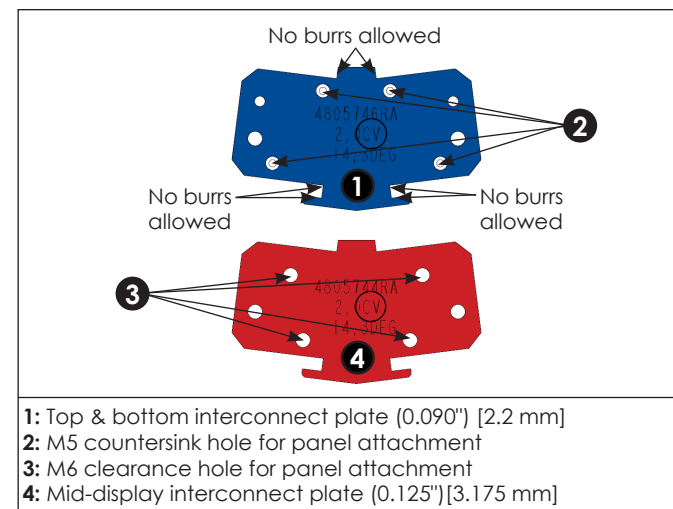
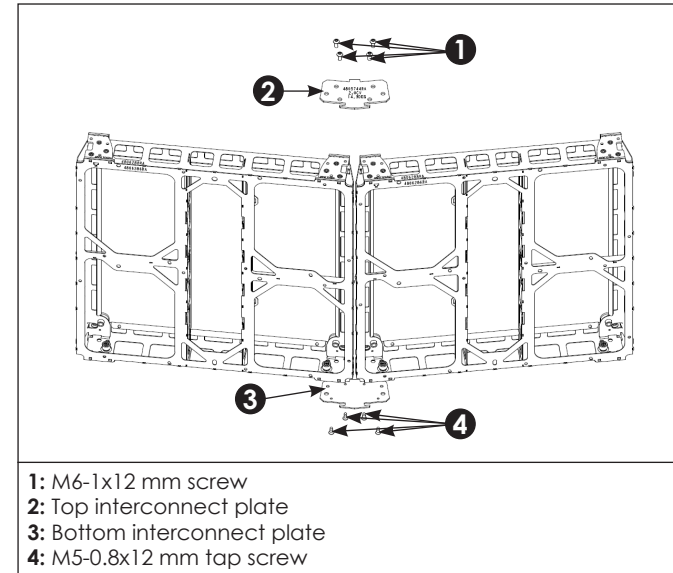

Figure 6: Interconnect Angle Plate
Figure 7: Install Interconnect Plates
3. Inspect the interconnect angle plates for burrs and use a file to remove any small burrs. Refer to **Figure 6**. Use four M5-0.8x12 mm tap screws per bottom interconnect angle plate to attach to the bottom of the first row of panels. Tighten the screws to 15 in-lbs. Use four M6-1x12 mm Allen-drive screws per mid-display interconnect plate to attach to the top of the panels, leaving the screws finger-loose. Refer to **Figure 7**.
The interconnect angle plates are designed to sit tight against the mating machined surface of the panel. Each plate is etched to show if it is for a concave "CC" or convex "CV" display. Refer to **Figure 6**.